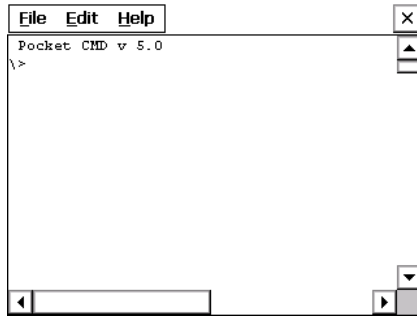

Figure 2-10. Command Prompt Window
1. Tap **Start** ▶ **Programs** ▶ **Tools** ▶ **Command Prompt**. The *Command Prompt* window displays (Figure 2-10).